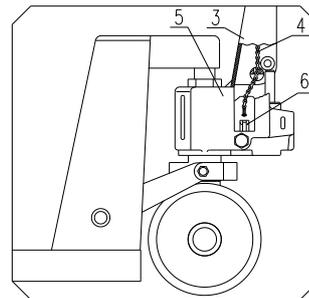
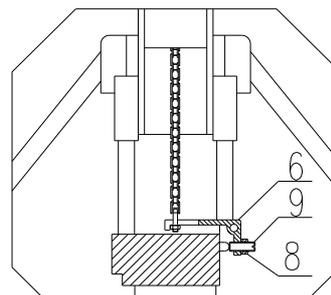

Fig. 2
Fig. 4
3.4 See fig 2. Put the chain 4 of hand grip get across the middle hole of pin roll 1.
3.5 Take screw nut which is at the end of chain 4 and hitch the groove of lever board 6. See fig 2 and fig 4.
4.2 The screw 9 in fig 4 is used to adjust the truck situation. When the truck body drops immediately after it is lifted, you should turn the screw 9 a